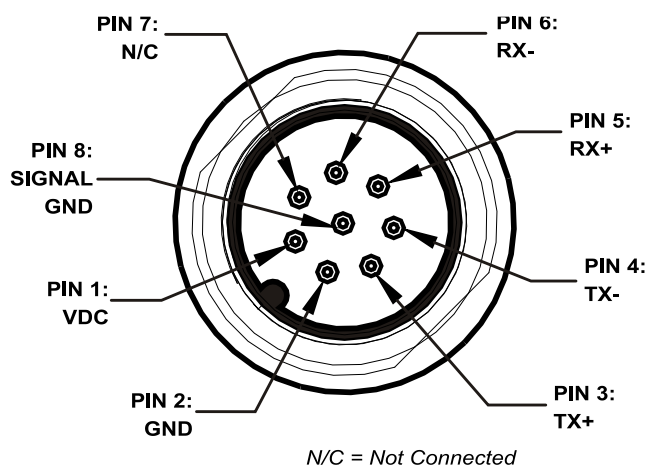

Figure 14 - RS422 Interface M12 8-pin Male Connector
2. Build an RS422 compatible cable using the BCC0A03 M12 8-pin female connector. Use suitable shielded twisted-pair wires for RS422 connection and power supply signals according to the connector pinout (see Figure 14). Connect the BCC0A03 M12 8-pin female connector to the M12 8-pin male connector on the Compact processor. Connect the other end of the cable (wires or user-supplied connectors) to the host (PLC) and power supply.